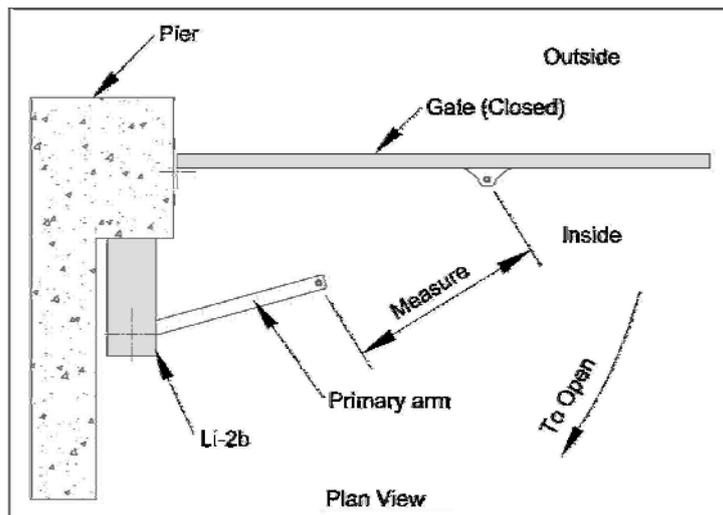

Figure 7: Measure length of secondary arm.
1. Move the primary arm to a position suitable for the closed gate. Remembering that in the closed position the primary and secondary arms must stop short of a straight-line alignment (See Figure 7).